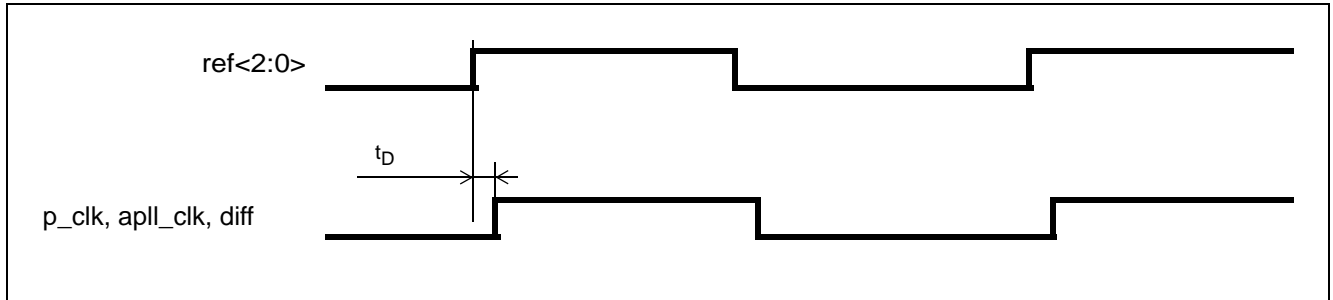

**Figure 28 - Sync Input Timing**
**AC Electrical Characteristics\* - Input Timing For Sync References (See Figure 28).**